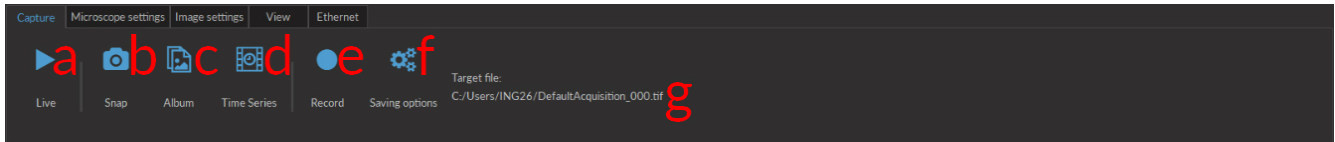
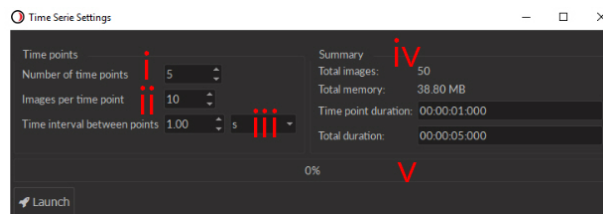

Figure 4.2: Capture Tab
Figure 4.3: Time Series Window
- a) The **Live** button (Fig. 4.2), when pressed, displays images from the microscope. These images are not saved.
- b) The **Snap** button (Fig. 4.2), when pressed, takes a snapshot of the current image and saves it in the requested directory with the desired name (**Saving Options**) as a single image.
- c) The **Album** button (Fig. 4.2), when pressed, acquires a snapshot and adds it to an album stack. The whole stack can be saved as one image stack.
- d) The **Record** button (Fig. 4.2), when pressed, acquires a continuous image stream, until **Stop** is pressed, and saves it in the requested directory with the desired name (**Saving Options**) as one image stack.
- e) The **Time Series** button (Fig. 4.2), when pressed, opens the time series interface (Fig. 4.3).
- i. The **Number of time points** (Fig. 4.3) defines the number of moments when a set of images will be recorded.
- ii. The **Images per time point** (Fig. 4.3) defines the number of images taken in each set.
- iii. The **Time interval between points** (Fig. 4.3), defined in ms, s and min, defines the duration between each image set. This duration always has a minimum value of **Exposure time x Images per time point**.
- iv. The **Summary** box (Fig. 4.3) shows many values related to the time series, including the **Total images** recorded, the **Total memory** occupied by the full series, the **Time point duration** and the **Total duration** of the full series.
- v. The **Progression bar** (Fig. 4.3) displays the progress (in %) of the time series.